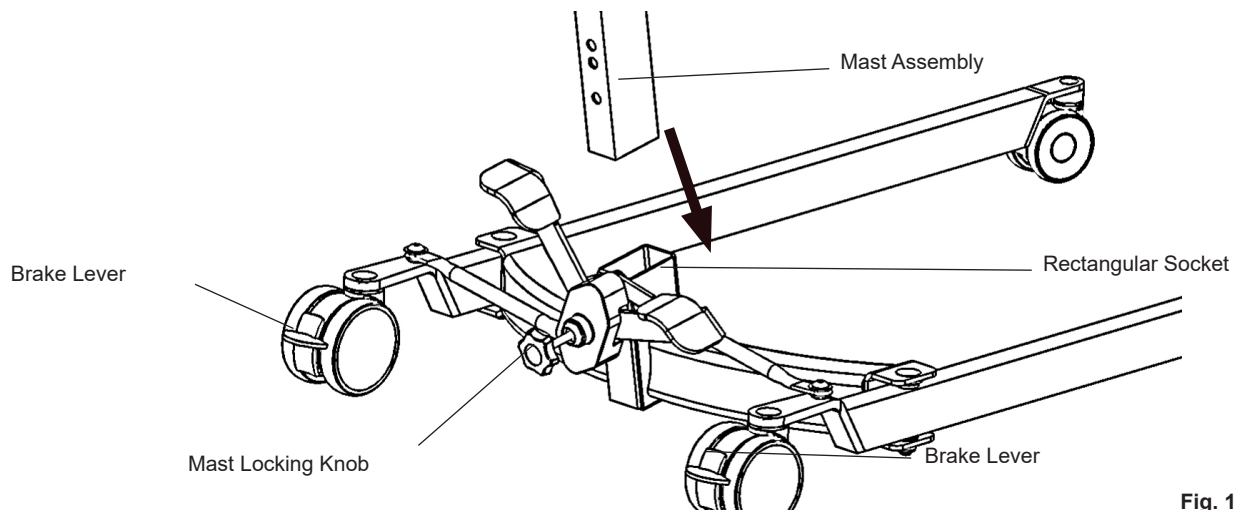

Fig. 1
2. Apply the rear caster brakes by pushing the brake levers (Fig. 1) downwards.
3. Fit the mast assembly to the chassis. The mast is located into the rectangular socket on the top centre of the chassis. (Fig. 1 - manual leg model shown).